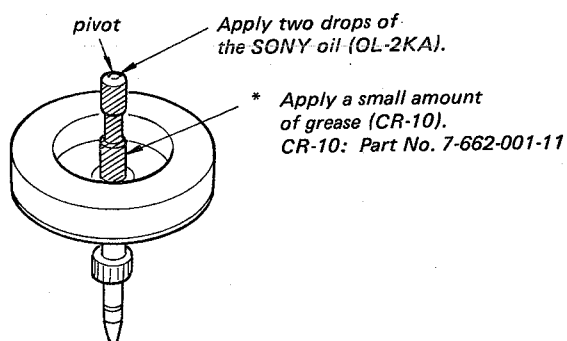

Fig. 2-14.
1. When the motor shaft is replaced, apply two drops of the SONY oil (OL-2KA) in the pivot and apply grease to the parts marked by * in Fig. 2-14.